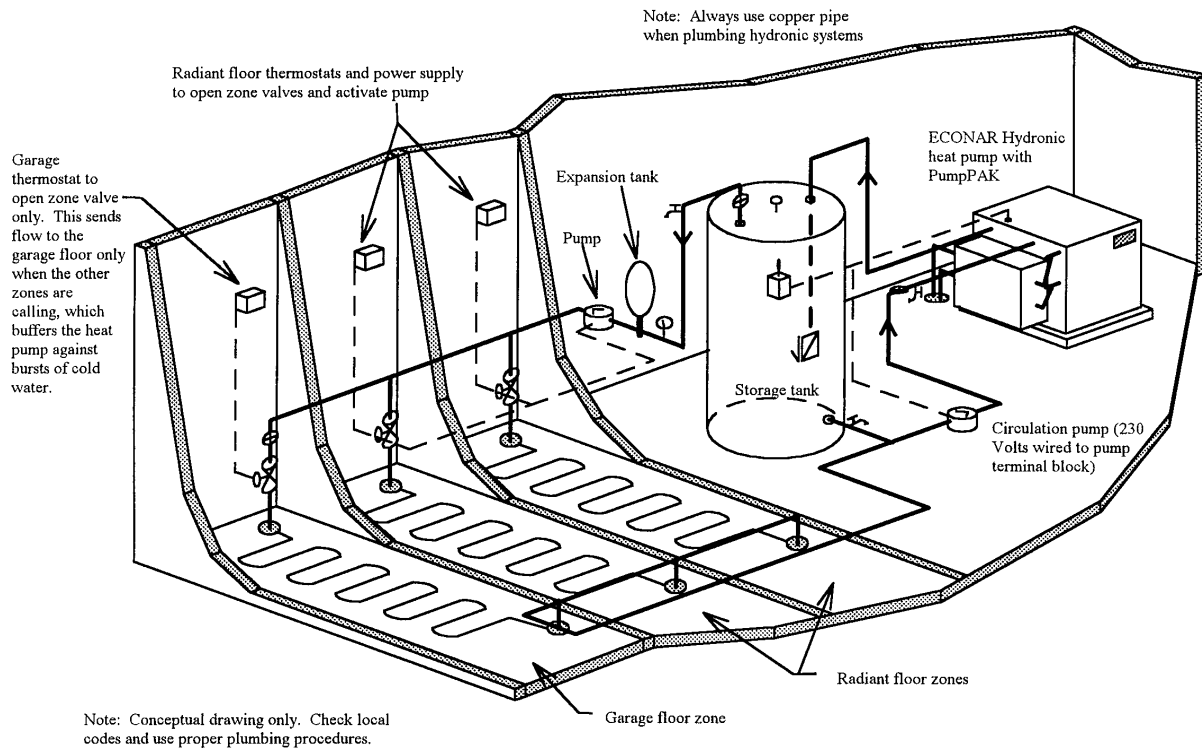
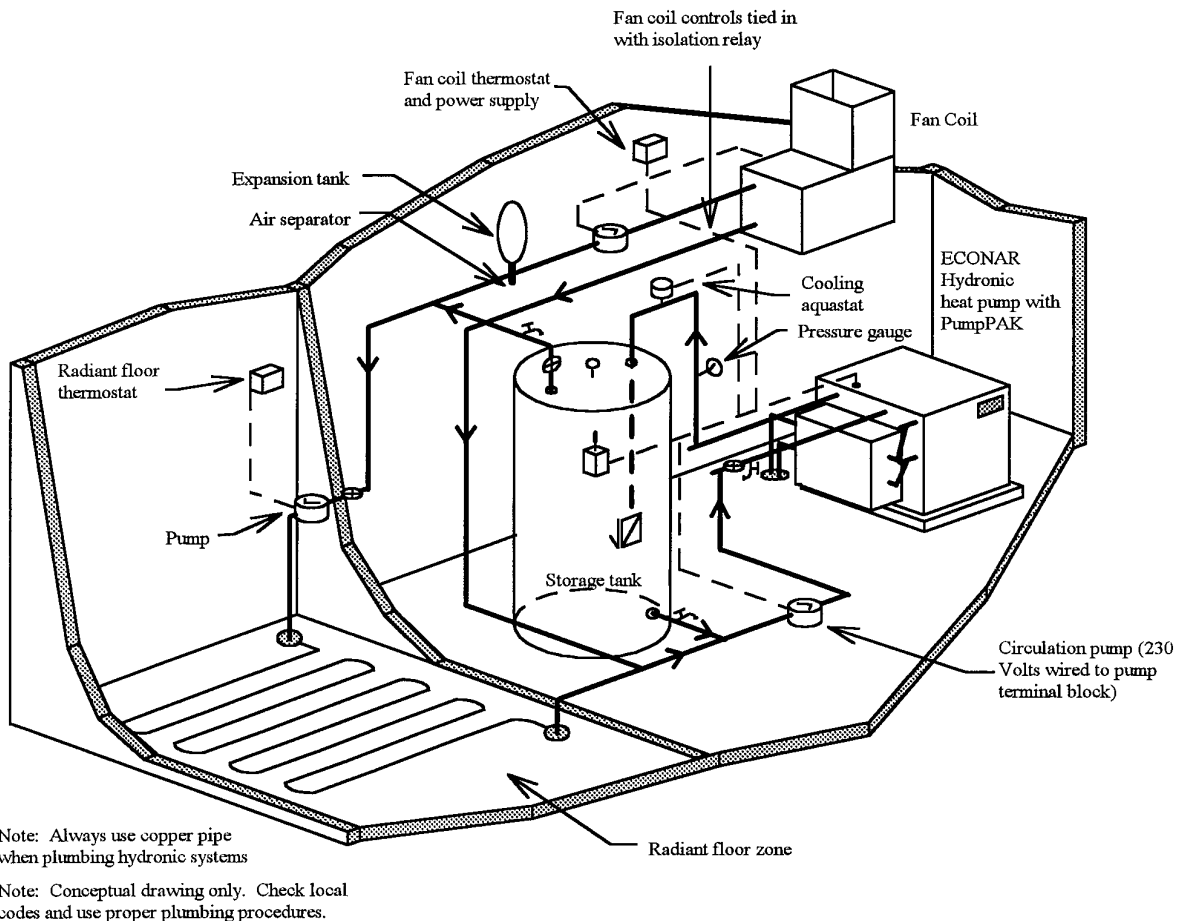

Figure 3 – ECONAR Hydronic Heat Pump – Multizone System
Figure 4 – ECONAR Hydronic Heat Pump – Radiant Floor Heating and Fan Coil Cooling
The circulator supplying the heat pump should be placed in the water supply line into the unit to provide the best pump performance. Individual zone circulators should also be placed in the supply lines of the heat exchangers they serve. These pumps are often used as the on/off control mechanism for the zone they supply as shown in Figure 4. Zone valves are also commonly used for this purpose using a common pump (shown in Figures 3 and 6).
Figures 3 through 6 show the components of a hydronic heat pump system discussed above used in some common applications. These figures by no means represent all the possible hydronic heat pump applications, but they do show some important principals that can be applied to any system.
If the system’s external controls require more than the VA available for external use from the transformer, an external transformer must be used. You can see that in Figure 5, the heat pump’s internal transformer can easily power the external 24-Volt system. In contrast, Figure 4 shows a fan coil system with its own power supply, which must be coupled to the heat pump to put the heat pump into the cooling mode. This can be accomplished using an isolation relay which isolates the fan coil power supply from the heat pump’s transformer (e.g. use the fan coils independent power supply to energize the coil of a relay, passing a signal across the N.O. contacts from the heat pump’s transformer).
A cooling aquastat can be mounted on the water supply line, as shown in Figure 4. This aquastat acts as a low limit, which shuts the heat pump down when the cooling water reaches a minimum (e.g. 35°F).
- 2) A cooling thermostat which powers the coil of a single pole/double throw relay which selects the heating aquastat (normally closed contact) or cooling aquastat (normally open contact) shown in Figure 4.
Any number or types of thermostats, aquastats, or switches can be used with an independent power supply (typically a 24-volt transformer) to activate specific zone controls. These zone controls are normally either a zone pump (Figure 4) or zone valves (Figures 3 and 6). End switches on the zone valves can be used to pass a signal to a pump relay when the zone valve is open. The pump relay then activates a common pump, which supplies any number of zones. Example: the fan coil in Figure 4 could be supplied by the same pump as the radiant floor system if zone valves were used instead of two pumps.